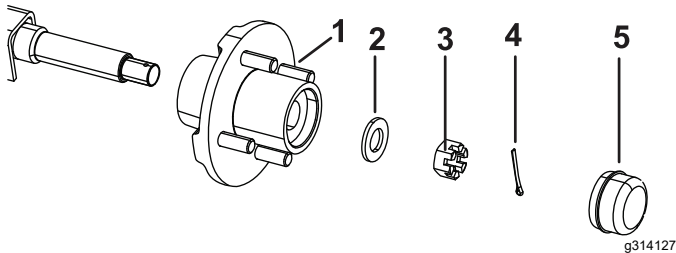

Figure 37
3. Remove the dust cap, cotter pin, nut retainer, and washer from the hub assembly (Figure 37).